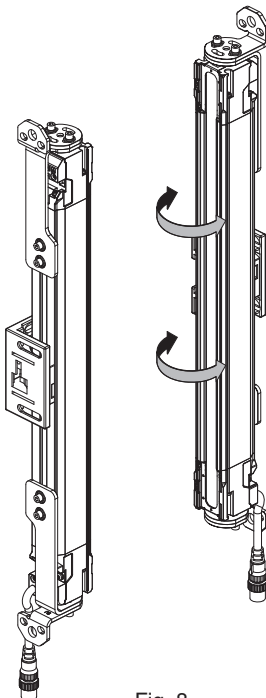

Fig. 8
7. Power the emitter and receiver on to perform beam alignment. Move the emitter and receiver from side to side (Fig. 8) to check the state of the beams For more information on the beam alignment procedure, refer to 5-3-4-5. *Mounting IP69K Model*.